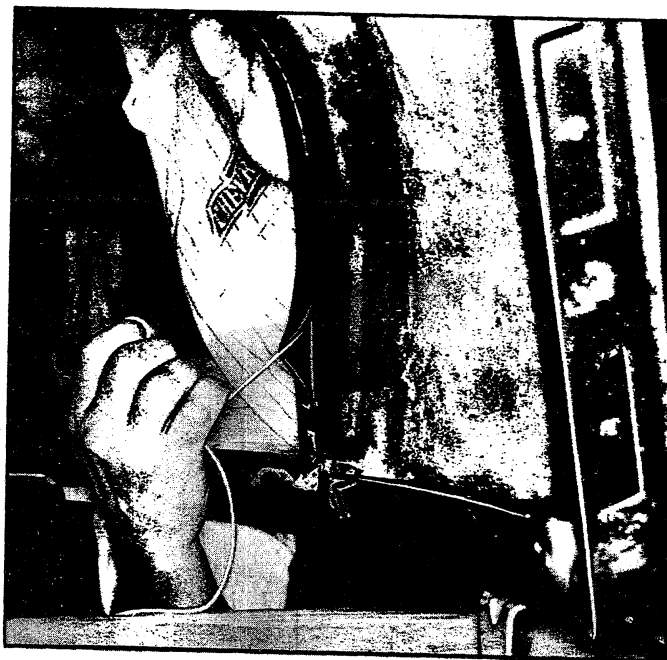

Fig. 90—Pulling Cord From Weatherstrip
8. Grasp ends of cord and pull toward front of top assembly. Exert gentle but firm pressure on outside of window in the area where string is emerging from weatherstrip. Figure 90 shows action of string on weatherstrip; lip of seal is pulled out of frame apex and over frame flange.